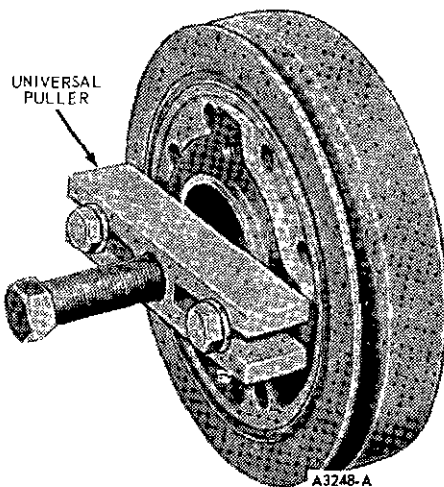

FIG. 43 Removing Crankshaft Vibration Damper
7. Remove bolt and washer attaching crankshaft damper. Remove crankshaft damper with a puller (Figure 43). Remove Woodruff key from crankshaft.